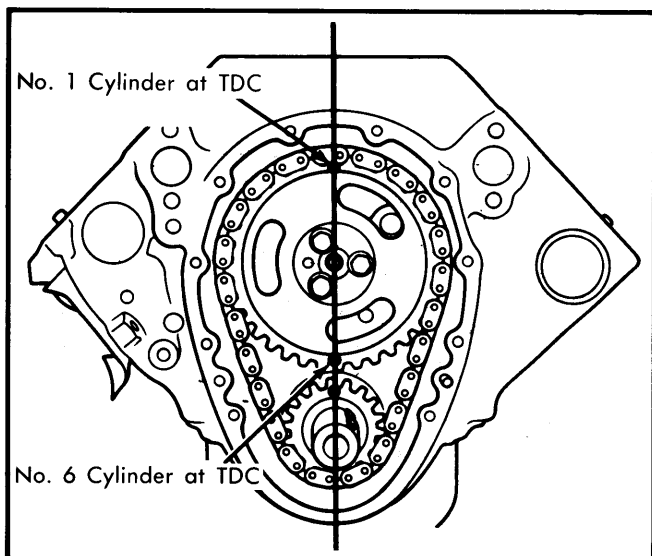

Fig. 7 Timing Chain Sprocket Alignment
**Installation** — 1) With camshaft installed, place timing chain over camshaft sprocket so that it hangs below sprocket. Align marks on camshaft and crankshaft sprockets. See Fig. 7.